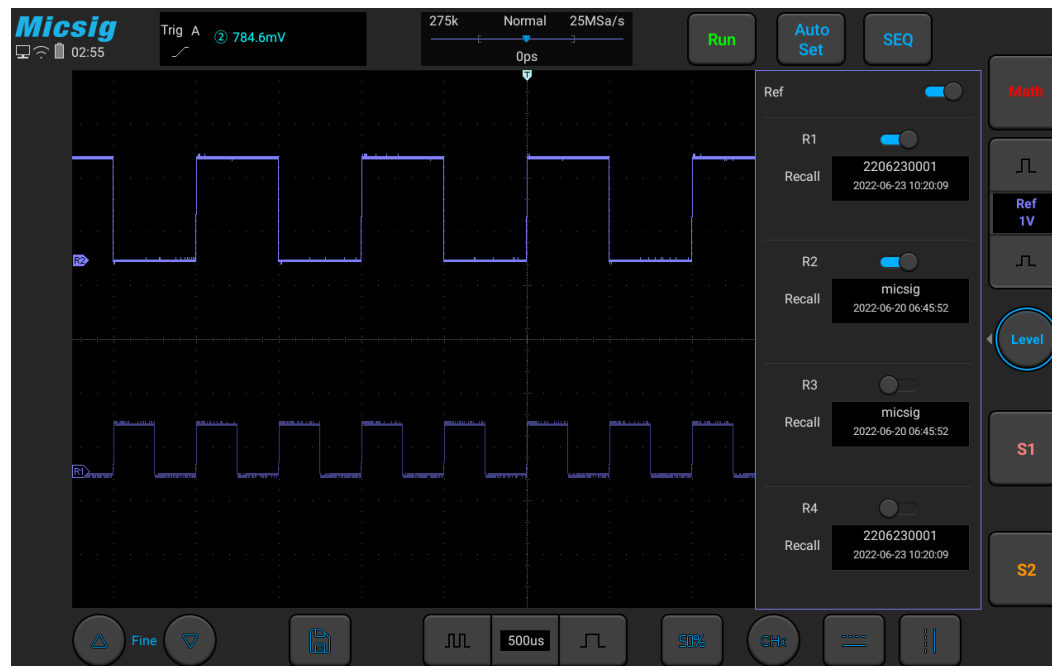

Figure 8-6 Reference Channel Menu
- 3) Click the name of the reference waveform file to be called. The file is loaded into R1 channel. Then, R1 channel is turned on as the current channel waveform, and the reference waveform channel icon  is highlighted. The displayed state changes from “Close” to “Open”. As in Figure 8-6, the brighter reference waveform is shown as the current reference channel.